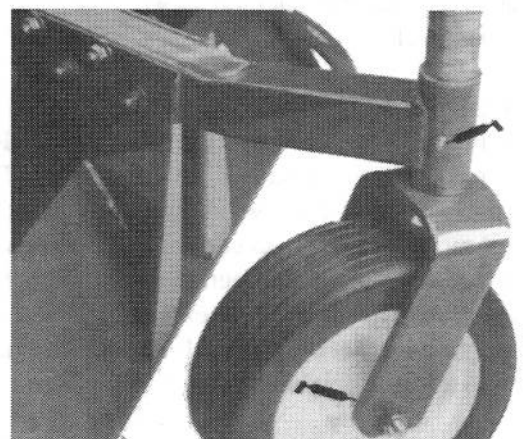
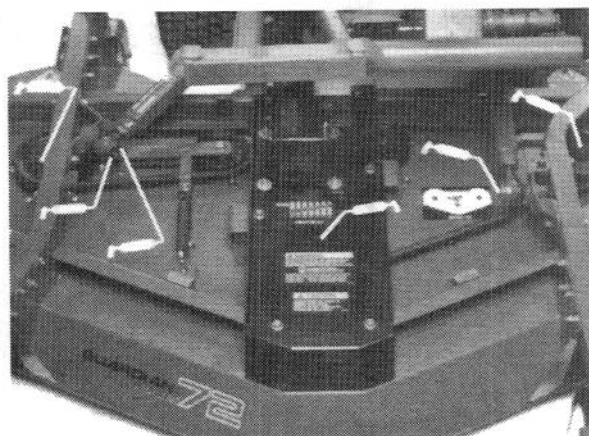

Figure 5
Figure 7
GREASE BEARINGS, BUSHINGS AND GEAR BOX (Fig. 5–8)
1. The cutting unit has bearings and bushings that must be lubricated, and these lubrication points are: front castor spindle bushings (Fig. 5); castor wheel bearings (Fig. 5 & 6); blade spindle bearings (Fig. 7); idler arm pivot (Fig. 7) and right and left push-arm ball joints (Fig. 7).